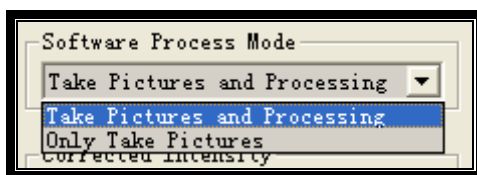

Fig.3-30
Step29: Click the drop-down option in the frame of **Software Process Mode** and choose a process mode which you wanted. As shown in fig.3-30.